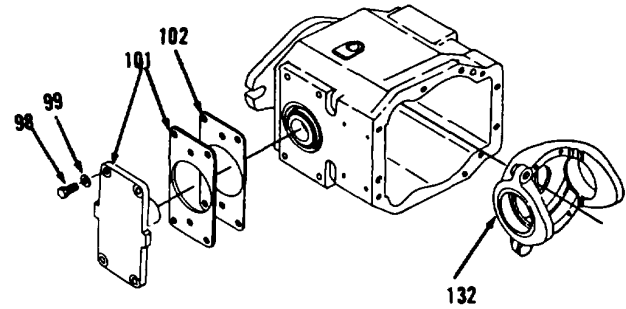
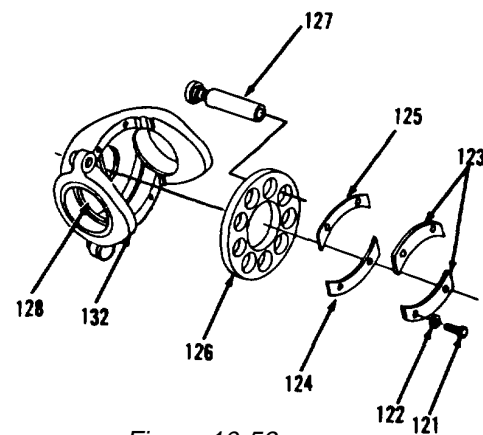

Figure 10-55.
Figure 10-56.
29. Remove eight bolts (98), washers (99), two covers (100) and shim(s) (101 and 102, Figure 10-55).
30. Remove swashplate (132).
31. Install nine pistons (127), plate (126), shim(s) (125 and 124), two bearings (123), four washers (122) and bolts (121) in swashplate (132, Figure 10-56). Tighten four bolts (121) to 100 lb-in torque.